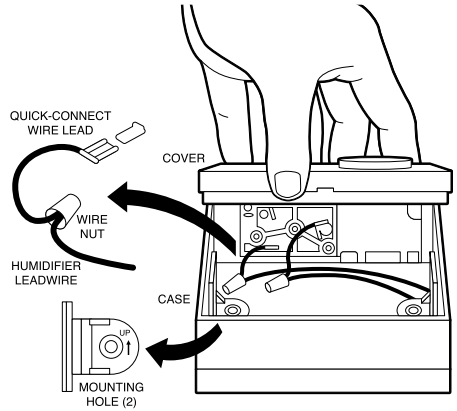

Figure 2
- 4) Make the wiring connections to the Humid•Alert assembly using lead wires and wire nuts supplied (Figure 2). Tuck wires into the bottom of the base, and then snap the cover assembly onto base (Figure 2).
- 4) Make the wiring connections to the Humid•Alert assembly using lead wires and wire nuts supplied (Figure 2) Tuck wires into the bottom of the base, and then snap the cover assembly onto base (Figure 2).